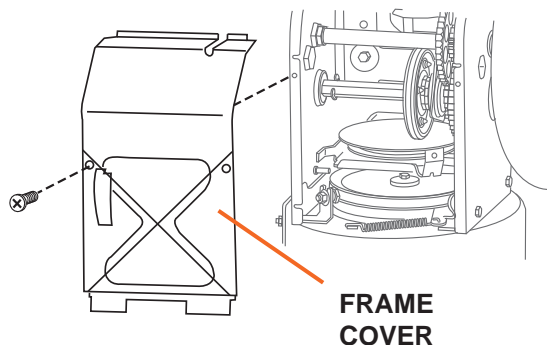

Figure 18
2. Carefully pivot the snow blower up and forward so that it rests on the auger housing. Remove the frame cover from the underside of the snow blower by removing four self-tapping screws which secure it (see Figure 18).